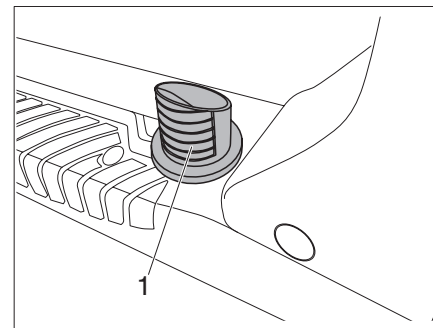

Fig. 71 Outlet of the vehicle heater
▶ Do not cover the outlet (Fig. 71,1) or point it directly at objects or parts of the body.